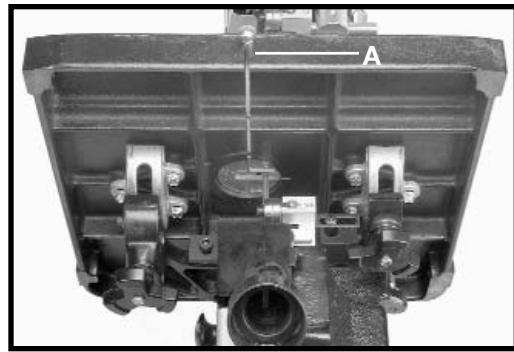

Fig. 28
4. Loosen the table alignment pin (A) Fig. 28 with a wrench and pull it out. Remove table insert.